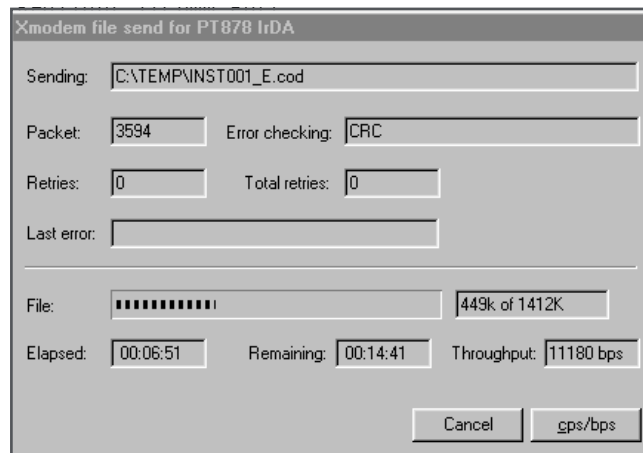

Figure 161: The File Transmission Window
4. Click Send. For a successful transfer, the PC window appears similar to *Figure 161*, while the PT878GC screen displays the program ID, size, load address and a count of blocks being loaded.